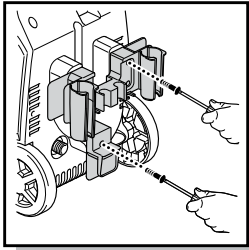
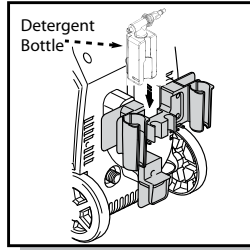

Fig. 1
Fig. 2
- Install the accessory holder on the back of your **BLUE CLEAN POWER WASHER** (Fig. 1). You'll notice where the accessory holder meets the back of the unit. You will see several male index posts which fit into female holes. The posts and holes enable easy placement of the accessory holder and easy tightening of the screws. Place the screws in the holes provided on the accessory holder and screw them in. Do not use a power screwdriver. When the screw is completely tight, give a small final clockwise twist of the screwdriver. Do not over tighten. After the accessory holder is installed you will notice a square area in the center of the holder where the square detergent bottle may be stored and easily retrieved (Fig. 2).
- Using one of the supplied screws, install the small electric power cord holder below the accessory holder so that the "L" - shaped holder faces downward. The electric power cord can now be wrapped around the accessory holder and the bottom "L" - shaped holder while your power washer is not in use (Fig. 1).